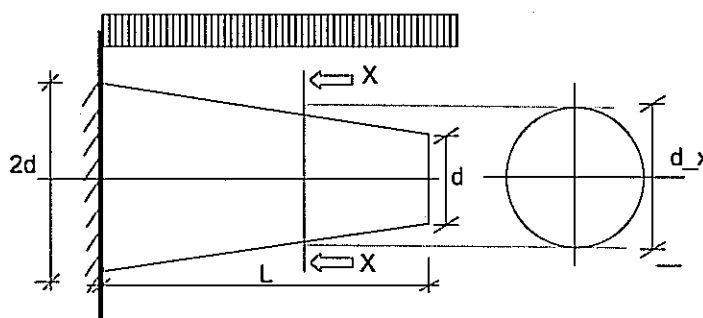

Figure Q2.
- A cantilever shown in Figure Q2 has a varying cylindrical cross section. At the support the diameter is $2d$ and it becomes d at the free end (L distance away from the support).